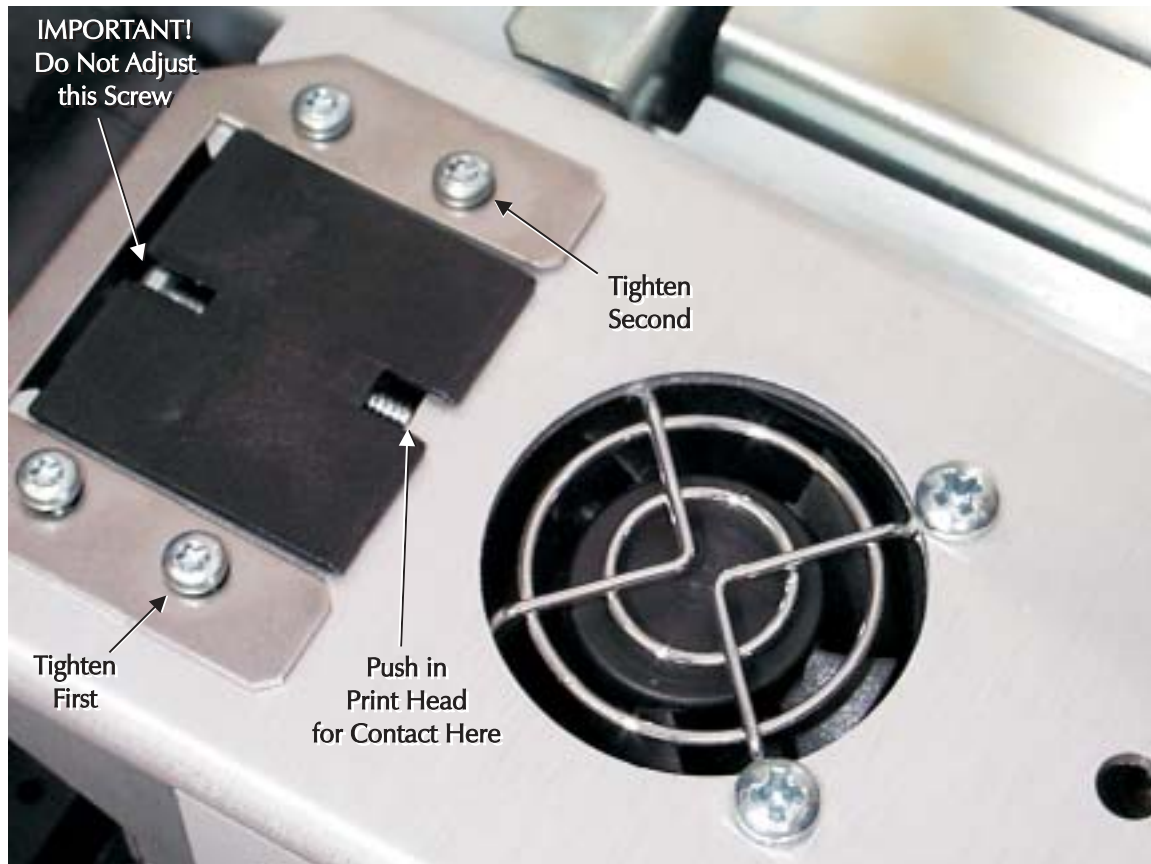

Figure 5-14. Properly positioned Print Head.
Step 6. Note the R value (resistance) marked on the new Print Head. Then, install the new Print Head by reversing the steps used during removal. Before tightening the Torx Screws, make sure to push the Print Head in as far as possible, as shown in Figure 5-14. **DO NOT** adjust the screw that stops the Print Head when pushing the unit in. All replacement units ship with this screw set to deliver optimum performance.